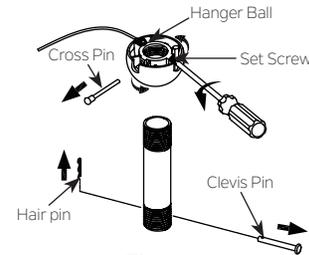

Fig. 6
**Step 2.** Remove the hairpin and clevis pin from the downrod assembly, retain for later use. Remove the hanger ball from the downrod assembly by loosening set screw, removing the cross pin, and sliding ball off the rod. (Fig.6)